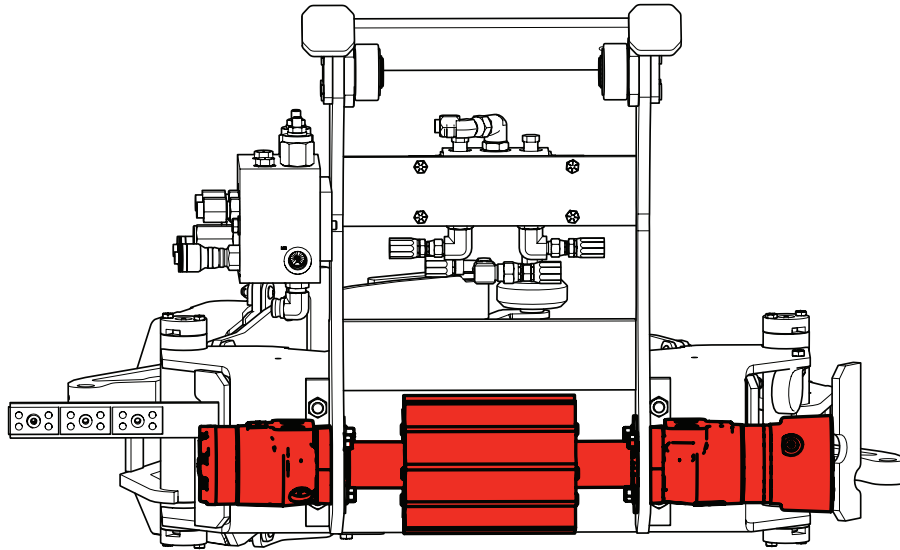

Figure 5
NOTE: The next steps detail work conducted on the backside of the grabber carriage assembly (see Figure 5).
10. Remove the motors, grabber gear, and all related hardware (Figure 5). Retain these items until further notice in this bulletin.